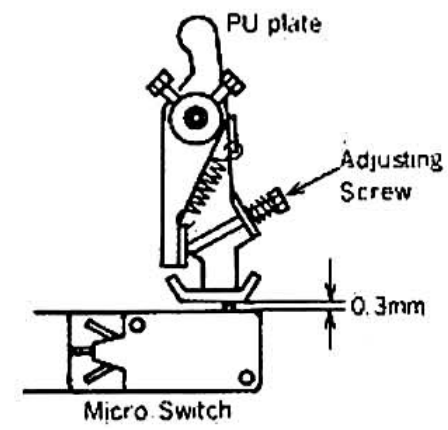

Fig. 4-1
- 1) The adjusting screw in Fig. 4-1 is one to adjust the position of Auto Return when stylus reaches lead-out groove.
After replacing the micro switch, adjust the clearance between PU plate and micro switch (See Fig. 4-1) to be approximately 0.3 mm at the tonearm on the arm rest by the clearance adjusting cam (See Top View (2)).